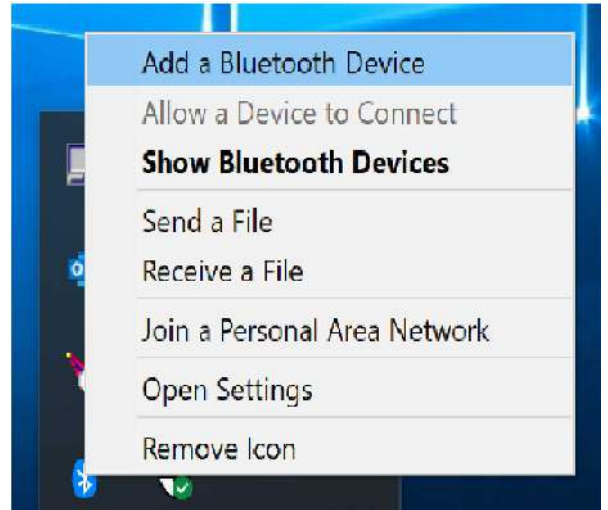

Figure 14. Add a Bluetooth Device
1. Click the **Bluetooth Devices** icon in the system tray and select **Add a Bluetooth Device** (see Figure 14).